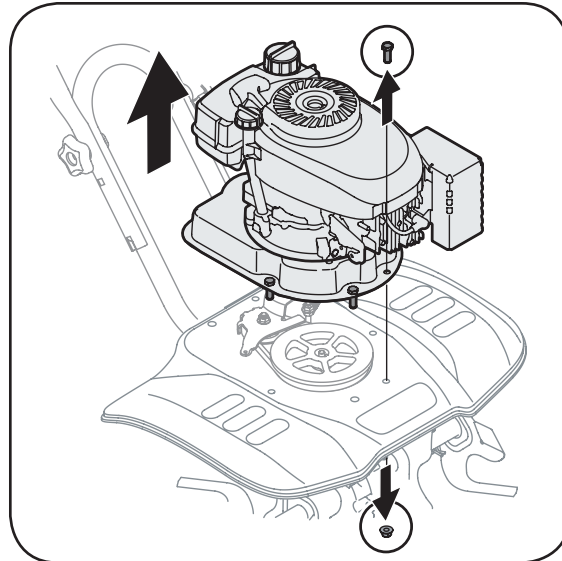

Figure 6-1: Remove engine and frame to gain access to the belt.
1. Remove the frame and engine by removing the six screws and lock nuts holding the engine and frame to the shield, Figure 6-1.